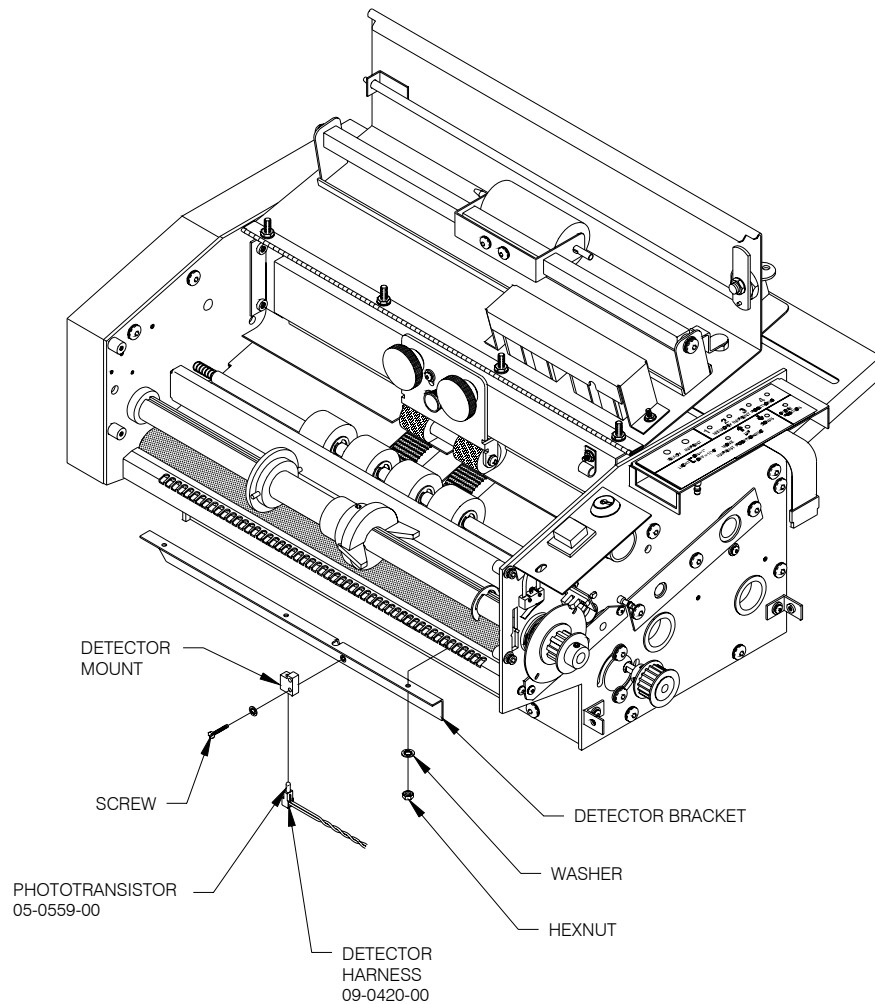

Figure 7.5 -- Replacing the Document Detector
3. Remove the 3 HEX NUTS on the DETECTOR BRACKET and pull the DETECTOR BRACKET out of the BASE. (Refer to **Figure 7.5.**)
4. Loosen the 2 SCREWS on the DETECTOR MOUNT and pull out the DETECTOR HARNESS. (Refer to **Figure 7.5.**)
4. Remove the 3 HEX NUTS on the DETECTOR BRACKET and pull the DETECTOR BRACKET out of the BASE. (Refer to **Figure 7.5**.)
5. Loosen the 2 SCREWS on the DETECTOR MOUNT and pull out the DETECTOR HARNESS. (Refer to **Figure 7.5**.)
6. Pull the DETECTOR out of the DETECTOR HARNESS. (Refer to **Figure 7.5**.)
9. Place the DETECTOR HARNESS into the DETECTOR MOUNT. (Refer to **Figure 7.5**.)